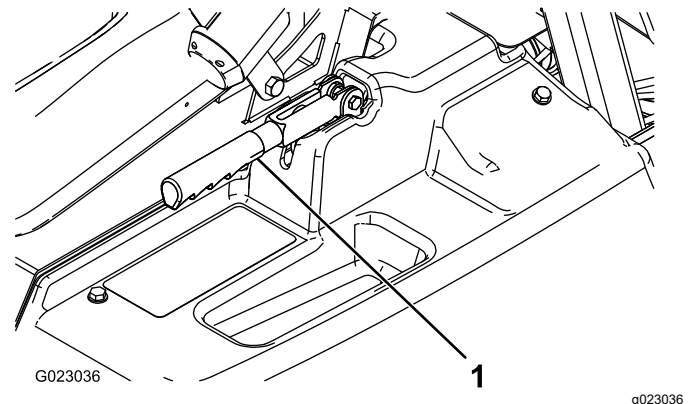

Figure 53
2. Loosen the set screw securing the knob to the parking-brake lever (Figure 53).